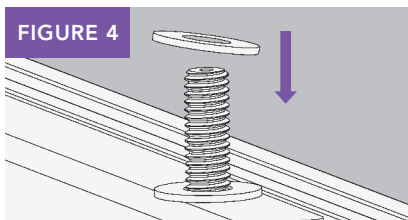

FIGURE 1
4.1 Align the bottom of the door inside the guide channel (Figure 1).